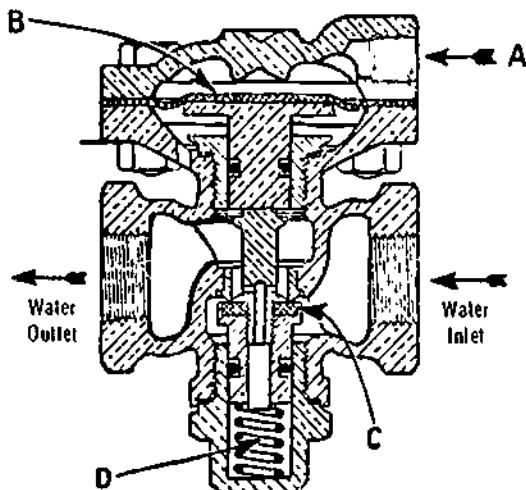

Figure 32-11. Automatic Water Shut-Off Valve
16. An automatic water shut-off valve is used on units regulated by constant-speed control, automatic start-stop control, and water cooling. A globe valve is installed in the line ahead of it to control the rate of water flow. The automatic valve is a spring-and-diaphragm type that operates by air pressure. As the valve is activated differently for the various types of regulation, the plumber would, on installation, follow the direction of the appropriate mechanical trades technician and the manufacturer's installation instructions. Figure 32-11 shows a typical valve construction with air pressure over diaphragm B at point A.